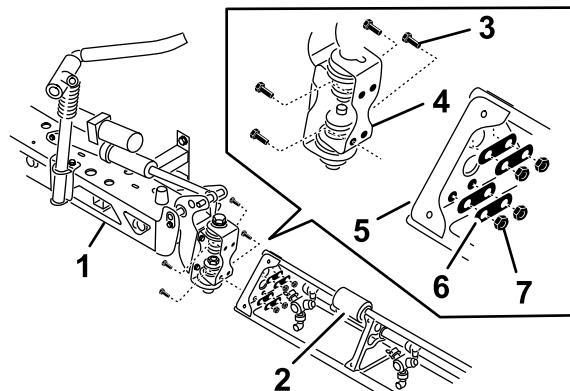

Figure 40
2. Rotate each pivot bracket at the end of the center boom section so that the brackets align vertically (Figure 40).
4. Assemble hinge plate to the triangular plate using 4 flange-head bolts, 4 backing plates, and 4 flange locknuts (Figure 40), that you removed in step 1.
6. Align the rod end of the boom lift cylinder with the holes in the horn of the pivot bracket (Figure 40).
7. Secure the rod end to the pivot bracket with a clevis pin and a hairpin (Figure 40).